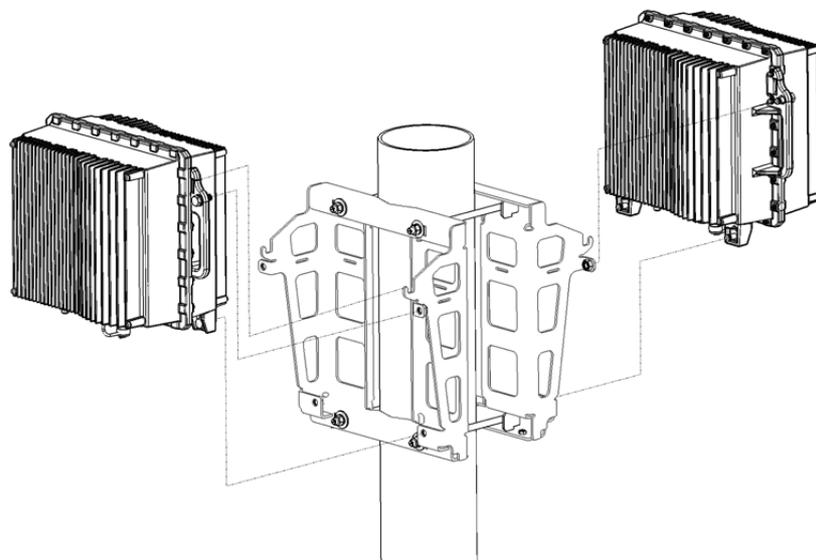
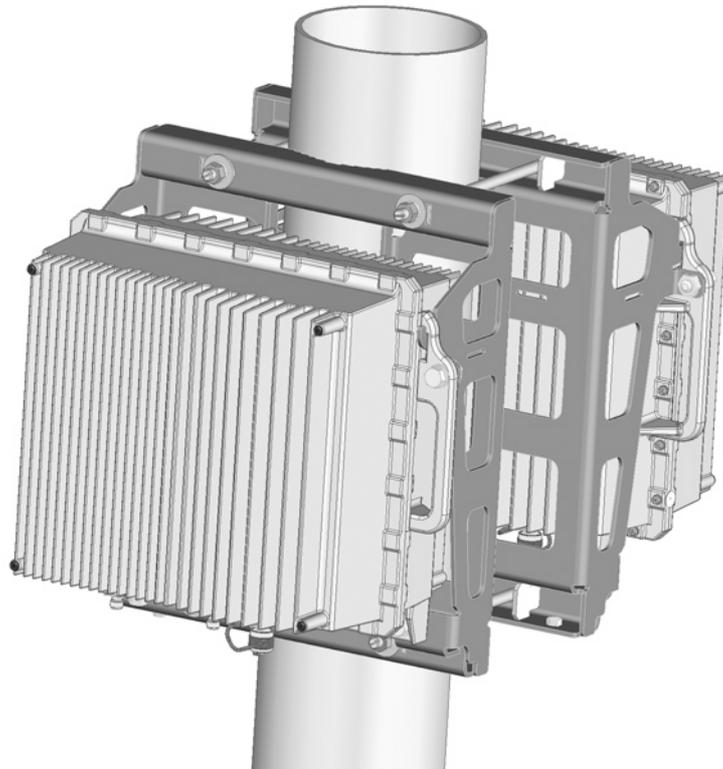
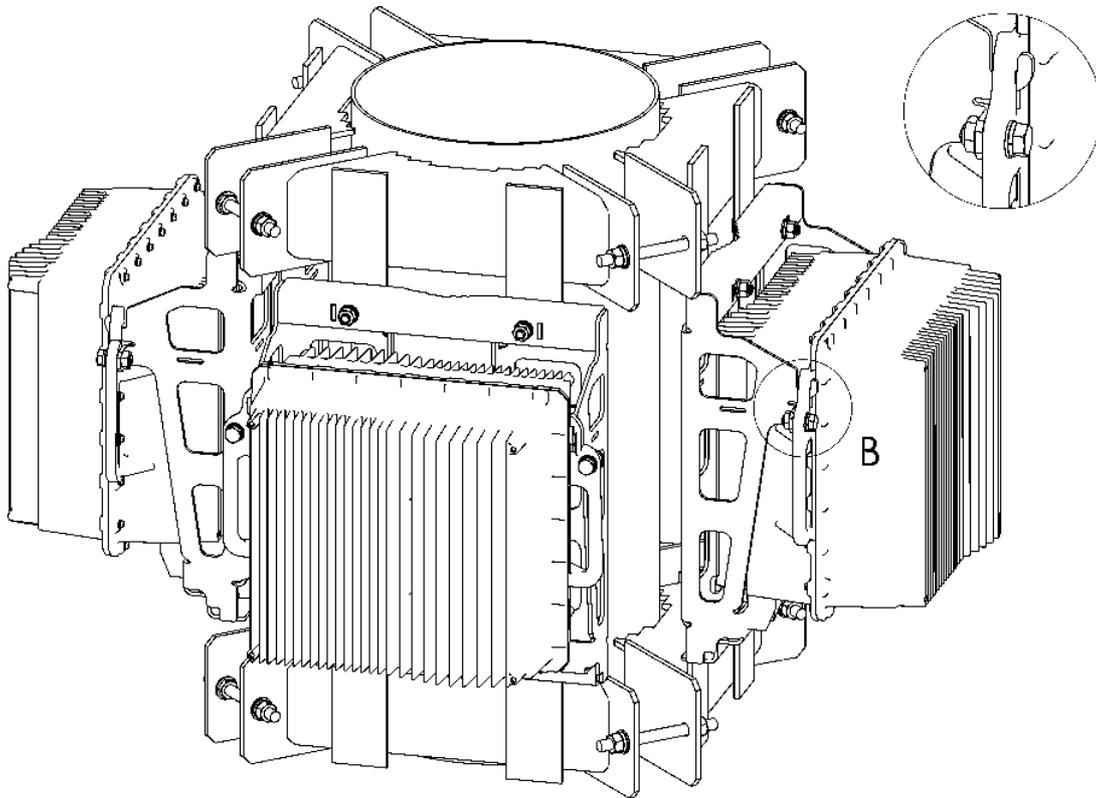

Figure 2-9: Mounting the two ODUs
Figure 2-10: Two ODUs Mounted on the Pole
Figure 2-14: Three 4x2 ODUs Mounted on the Pole
- 5 Hang the ODUs on the carriages and tighten the M10x30 screws (Figure 2-9 and Figure 2-10).
- 4** Hang the ODUs on the carriages and tighten the M10x30 screws (Figure 2-9 and Figure 2-14).